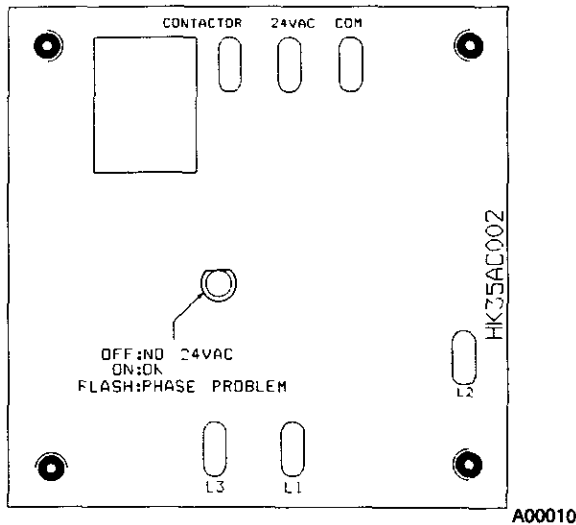

Fig. 10—Phase Monitor Control
- A flashing LED on phase monitor indicates reverse rotation. (See Fig. 10 and Table 3.)